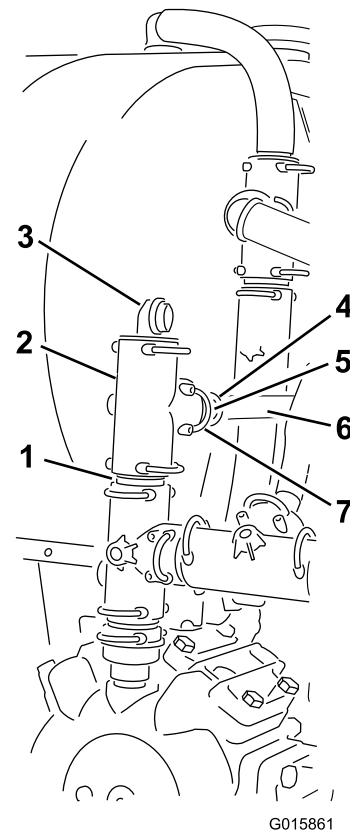

Figure 33
2. Install the S67 connector into the top of the open tee and secure it with a fork pin (Figure 33).
4. Install a 90° barbed fitting on the top leg of the tee (Figure 33) and secure it with a S67 fork pin.
- Note:** Orient the nozzle rearward (Figure 33).
5. Install a S67 to S53 reducer into the side of the tee, and secure the reducer with a S67 fork pin (Figure 33).
6. Install a S53 straight barbed fitting into the reducer with an S53 fork pin (Figure 33).